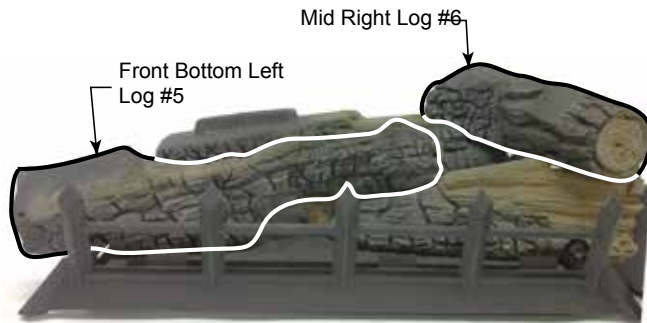

Figure 30
- Place front bottom left log (#5) on left pin located on burner and left grate bar. The right side of the log should rest on log #4. *Figure 30*
- Place mid right log (#6) on bottom rear log (#1) and front bottom right log (#4) by placing notch on bottom of log on locating block on log #1. Place front of log in notch of log #4. *Figure 30*